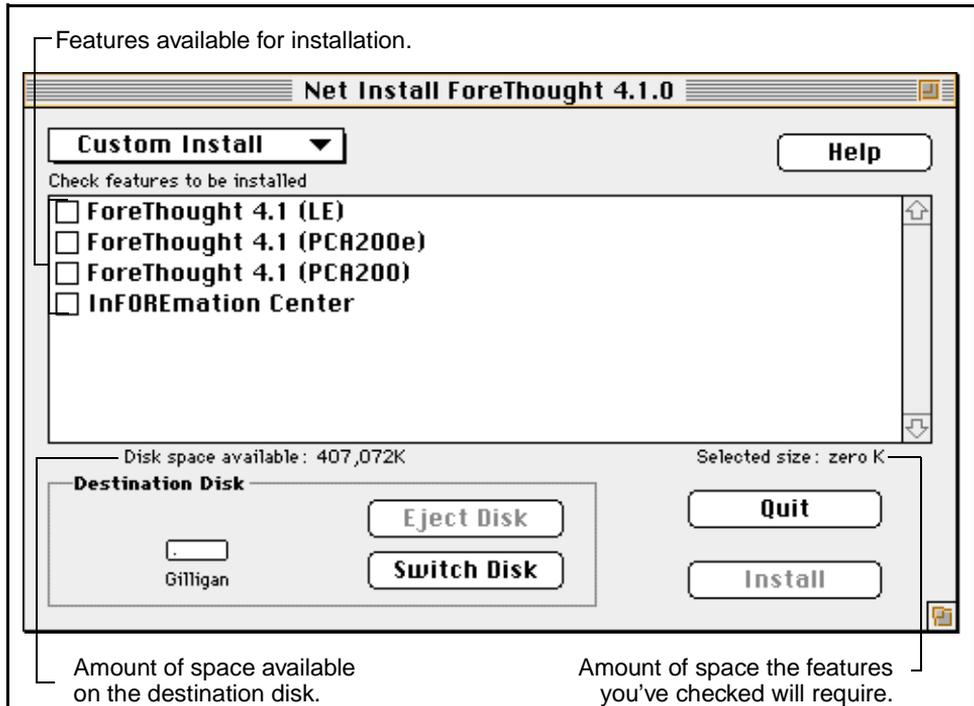

Figure 3.7 - Install FORE Software Window - Custom Install Mode
3. Highlight Custom Install and release the mouse button. The Install FORE Software window appears in Custom Install mode (Figure 3.7).